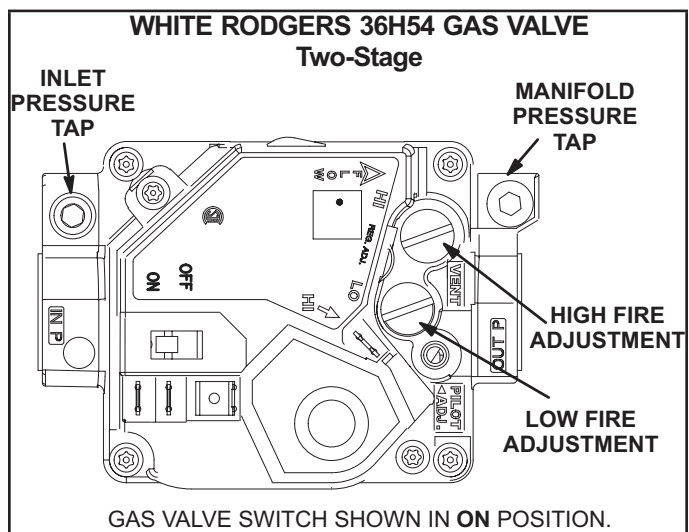
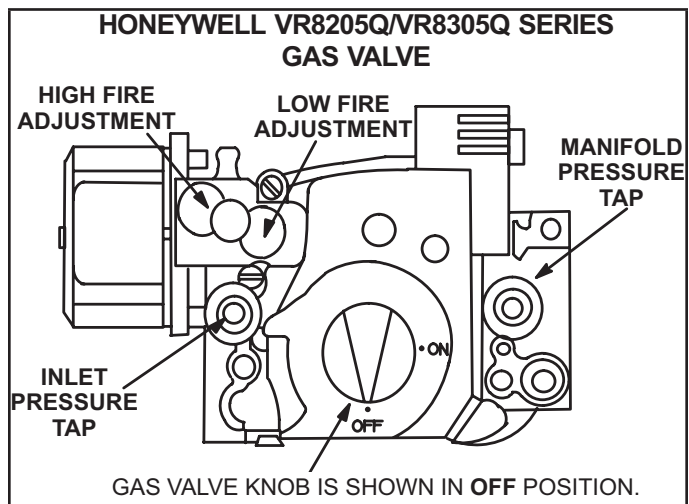

FIGURE 32
FIGURE 33
Gas Valve Operation for Honeywell VR8205Q/VR8305Q and White Rodgers 36H54 (FIGURE 32 and FIGURE 33)
- 5 - Turn gas valve switch to **OFF**. See FIGURE 32. On Honeywell VR8305Q gas valves, turn the knob on the gas valve clockwise to **OFF**. Do not force. See FIGURE 33.
- 6 - Wait five (5) minutes to clear out any gas. If you then smell gas, **STOP!** Immediately call your gas supplier from a neighbor's phone. Follow the gas supplier's instructions. If you do not smell gas, go to the next step.
- 7 - Turn gas valve switch to **ON**. See FIGURE 32. On Honeywell VR8305Q gas valves, turn the knob on the gas valve counterclockwise to **ON**. Do not force. See FIGURE 33.